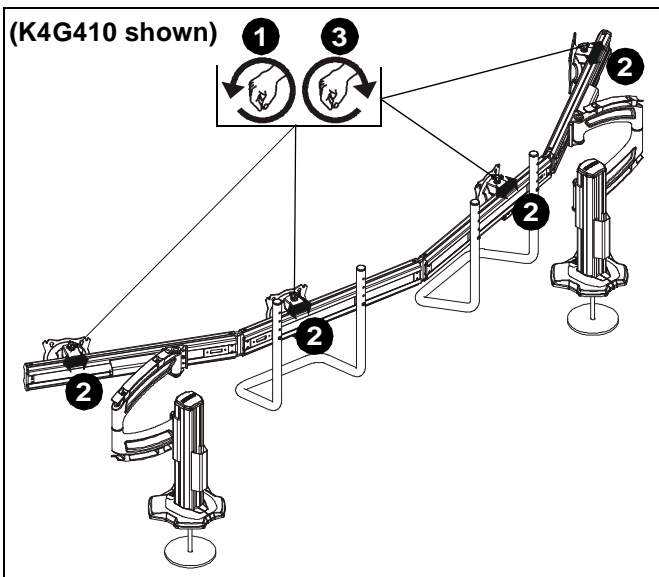

Figure 19
1. Loosen knob on top of faceplate assembly until faceplate can slide freely along array. (See Figure 19)
2. Adjust lateral position as desired. (See Figure 19)
3. Tighten knob to secure lateral position. (See Figure 19)